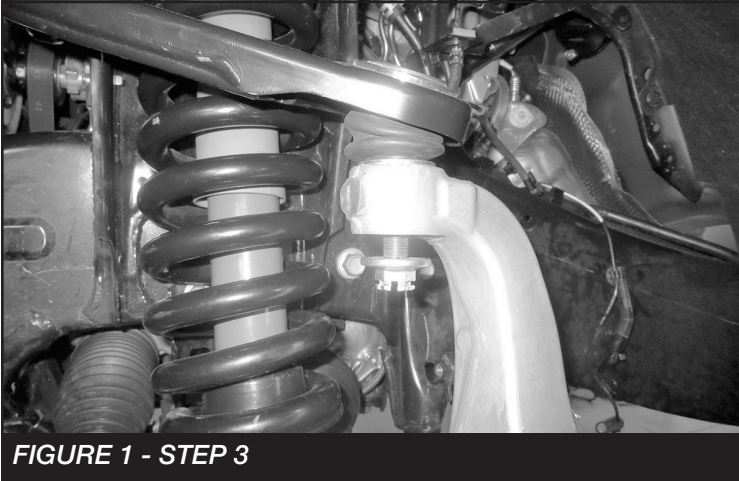

FIGURE 1 - STEP 3
2. Starting on the drivers side remove the upper ball joint nut. Disconnect the upper ball joint from the knuckle by striking the knuckle with a large hammer next to the upper ball joint on the knuckle to dislodge the ball joints. Use care not to hit the ball joints when removing. **SEE FIGURE 1**